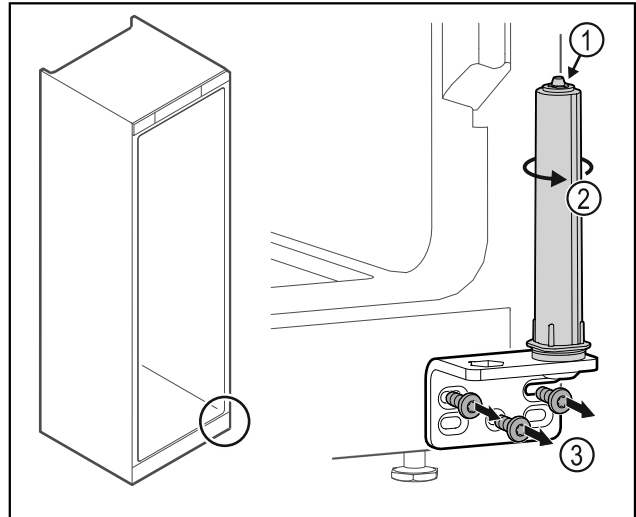

Fig. 39
- ▶ Do not disassemble the door closing system Fig. 39 (1).
- ▶ Turn the closing system Fig. 39 (2) until it clicks.
- ▶ Unscrew the hinge Fig. 39 (3).